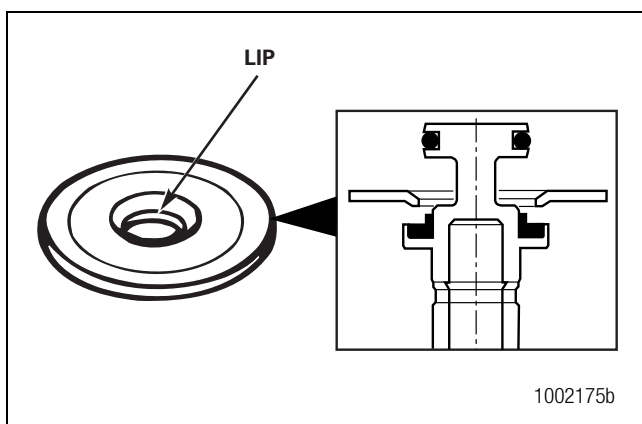

Figure 2.15
**NOTE:** Lip on washer must face piston seat. Figure 2.15.